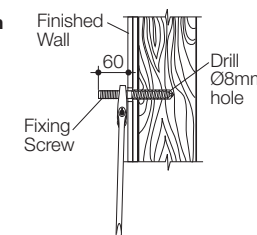

Figure 2
- 3- Insert Expansion Fasteners into the drilled holes in masonry wall. The Fixing Screws, should be screwed into the wall using the flat section of the Fixing Screw, with a spanner as shown in **Figure 2**.